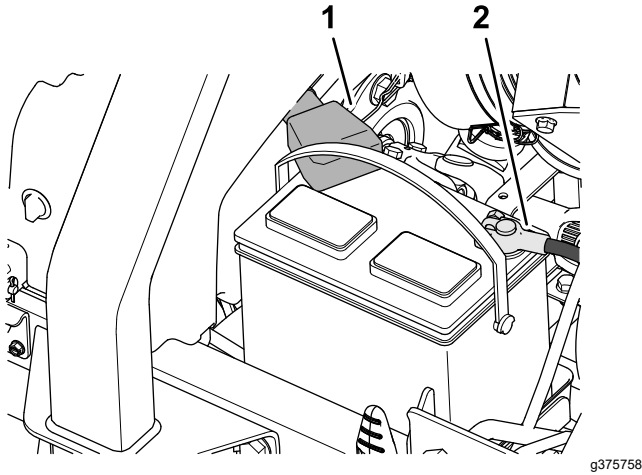

Figure 95
- Install the positive battery cable (red) to the positive (+) battery post (Figure 95).